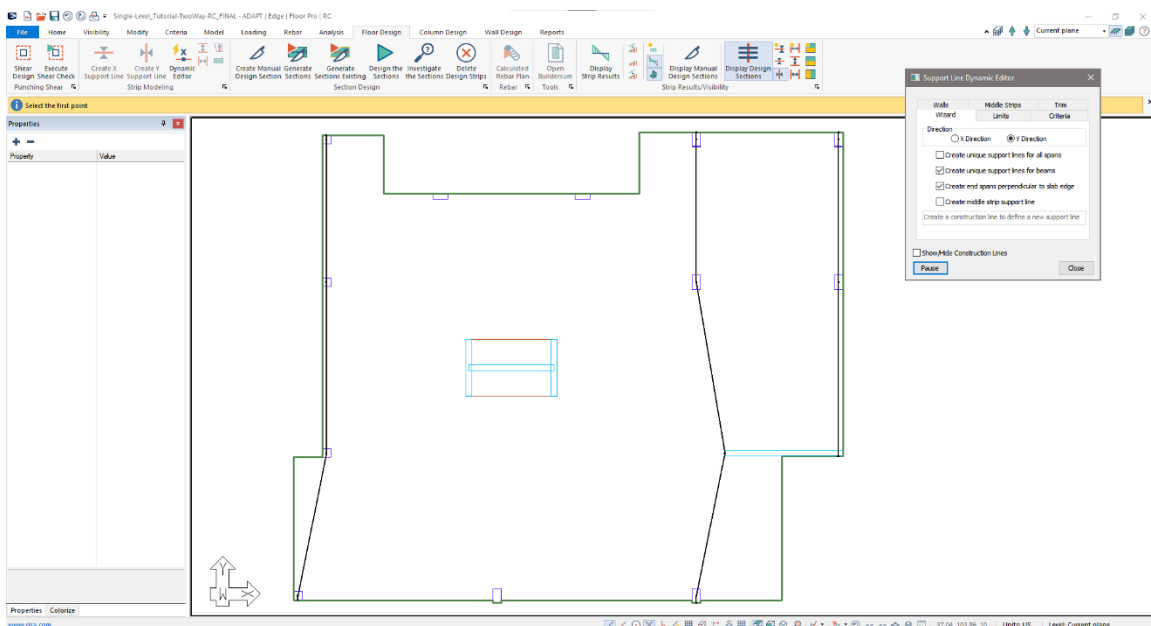

Figure 6-28
- Skip the middle core area and create the last two continuous support lines for the last two column lines in a similar fashion to the previous support lines created. When finished the model should look similar to **FIGURE 6-28**.